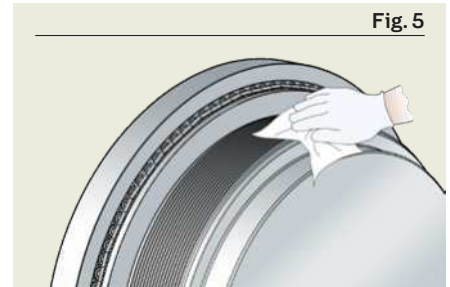

Fig. 5
- 1 After the component to be located has been mounted, e.g. a rolling bearing, clean and inspect the shaft threads thoroughly. Then apply a light coating of oil (**fig. 5**).